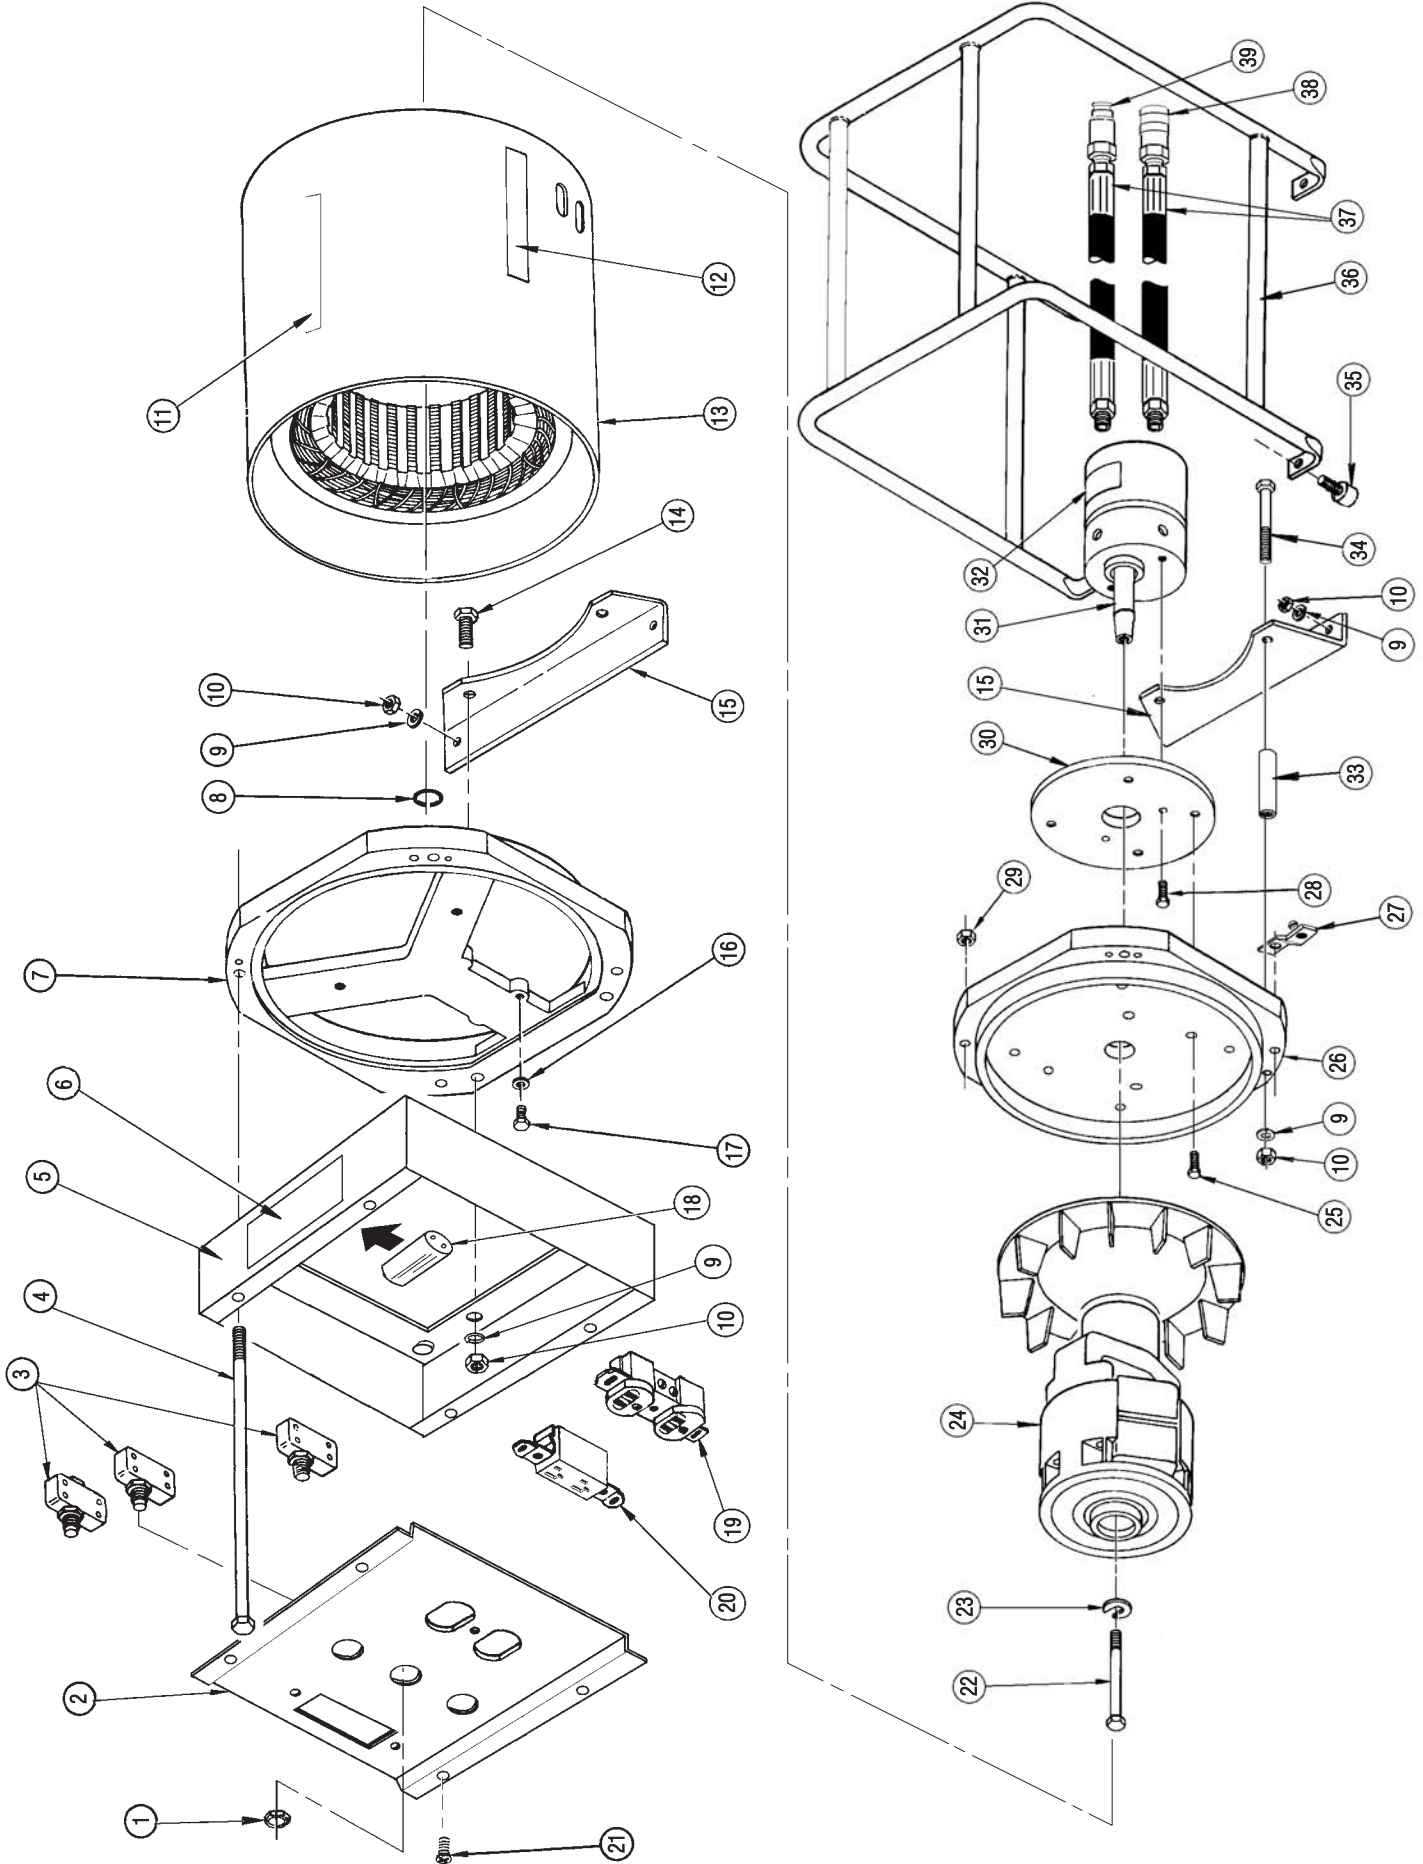

FIGURE 2. Hydraulic Motor Generator Assembly
1. Place the Hyrevz motor (31, figure 2) in a soft-jawed vise. Install the Hyrevz motor on the motor adapter plate (30) using the two 5/16-18 x 3/4 inch/19 mm long capscrews (28).
2. Secure the motor adapter plate (30) to the inboard engine end adapter (26) using the four 3/8-16 x 2 inch/51 mm long capscrews (25),
Loss of residual magnetism.	Flash the Field. 1. Stop the generator. 2. Remove the receptacle panel (2, figure 2). 3. Using a 12 volt automotive battery, touch the positive lead to the end of the diode set with the white or silver band located on the rotor assembly. At the same time touch the negative lead to the opposite end of the diode set. Hold the leads across the diode set for 2-4 seconds. NOTE: Do not reverse the polarity of the leads. This may cause damage to the diodes or the rotor or both. 3. Replace the receptacle panel and start the generator.